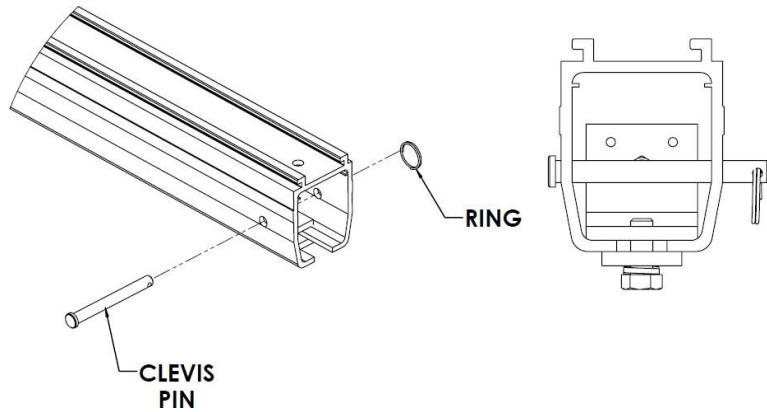

Figure 102: **Clevis Pin and Ring Installed**
- Install the clevis pin and ring as shown in Figure 102.